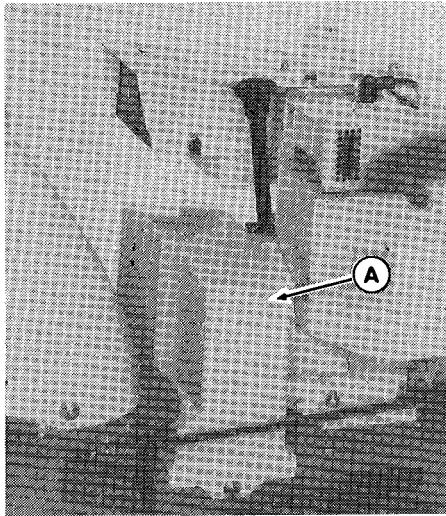

Figure 10. Belt Cover
1. Rotate the spout full right. Loosen the two screws which secure the belt cover (A, figure 10). Tilt the cover toward the front and work it off the snowthrower.